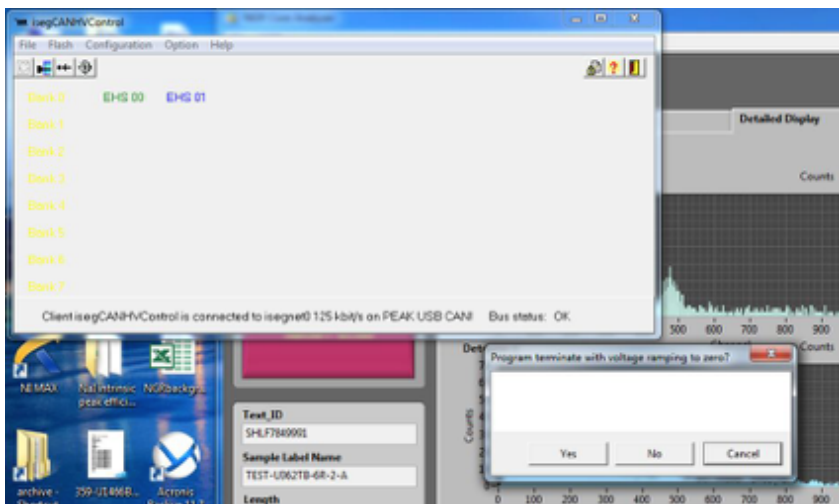

Figure 13. Program termination query.
- Exit the iSEG program. When the program asks if you wish to ramp the power down on all channels, select **Yes** (Fig. 13).